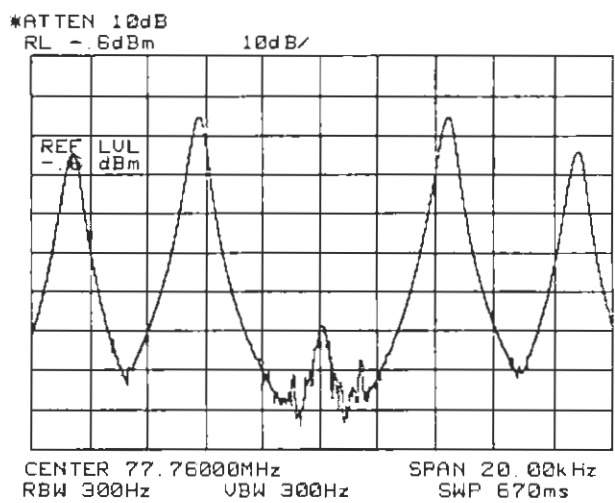

Figure 3-12
- 29 Adjust the HP 37718A jitter amplitude (approximately 3.52 UI) until the 2nd Bessel Null is observed on the Spectrum Analyzer i.e 2nd dip in the carrier level (see Figure 3-12).